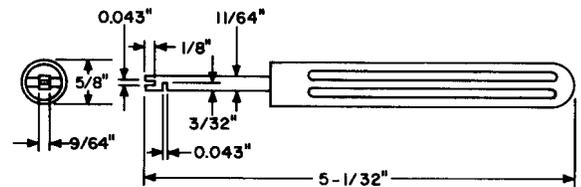

Fig. 12—264 Adjuster Tool
2.12 **264:** The 264 tool (Fig. 12) is a retractile spring lug adjuster used on the 208- and 214-type relays.